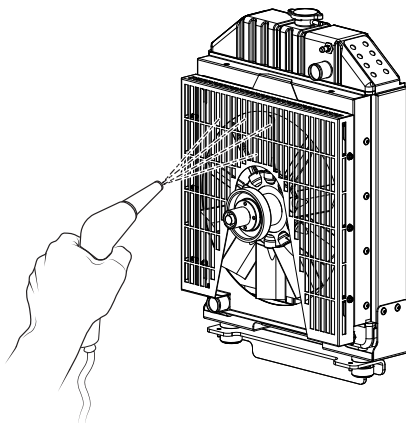

Figure 55. Radiator Cleaning
1. Blow off dirt and dust from the radiator and fins with 28 psi (193 kPa) or less of compressed air (Figure 55). Be careful to not damage the fins with the compressed air.